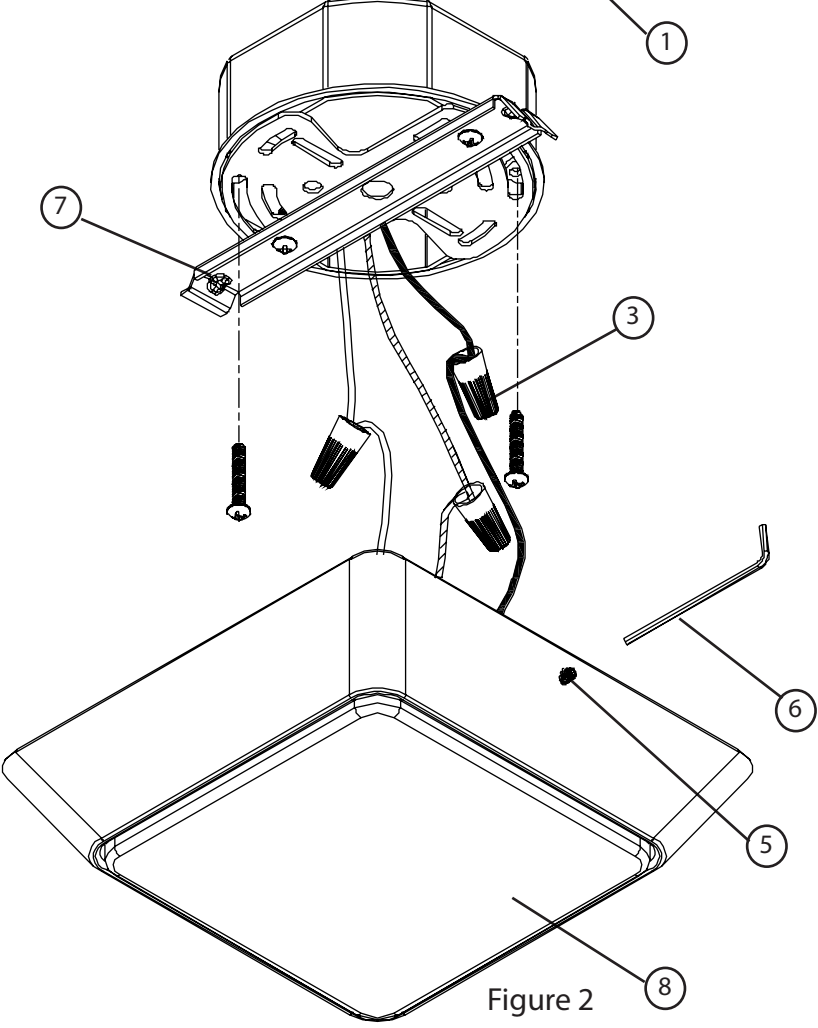

Figure 2
3. Thread setscrew (5) into hole on side of Fixture Housing (8) using Allen key to certain extend. See Fig 2.
4. With the power turned off, secure mounting bracket assembly from step 1 onto junction box using two Screws 1" (2). See Fig 2 Assistance may be required to support fixture during installation.
5. Hold the Fixture Housing (8) firmly and connect the green ground wire from the fixture to the bare copper ground wire from the junction box using a Wirenut (3). (If house wiring does not include a ground wire, consult your local electrical code for approved grounding methods).
6. Use Wirenuts (3) to connect the black fixture wire to the black power supply wire and the white (neutral) fixture wire to the white power supply wire. See Fig 2.
9. Tighten set screw (5) to secure fixture housing (8) to mounting bracket using Allenkey (6) to secure fixture. See Fig 2.